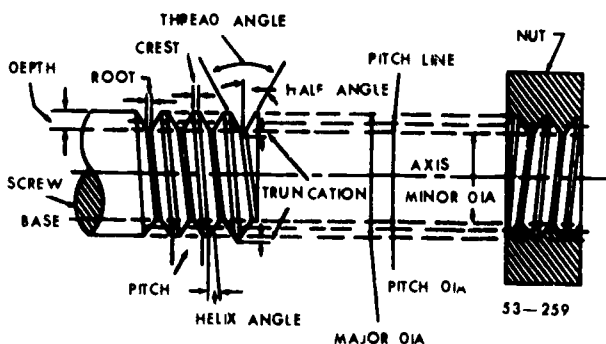

Figure 5-38. Thread parts.
**Threading Terms.** To be able to understand threads and threading operations, you must know the meaning of certain terms. Figure 5-38 will help you to understand the following definitions.